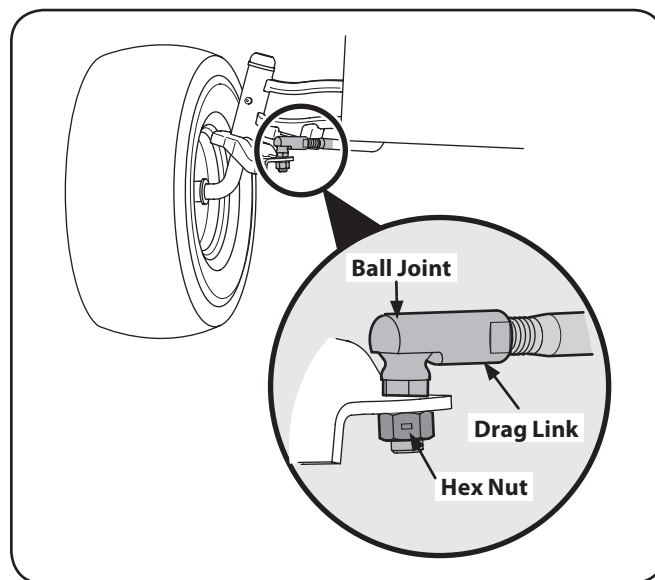

Figure 6-7
1. Remove the hex nut below the ball joint. See Figure 6-7.